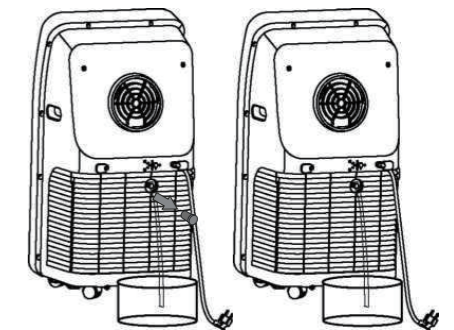

Fig 6
2. Disconnect the plug in drainage cap to drain the water inside the machine (Fig6)
- Pull out the drainage cap to drain out the water (Fig.6)